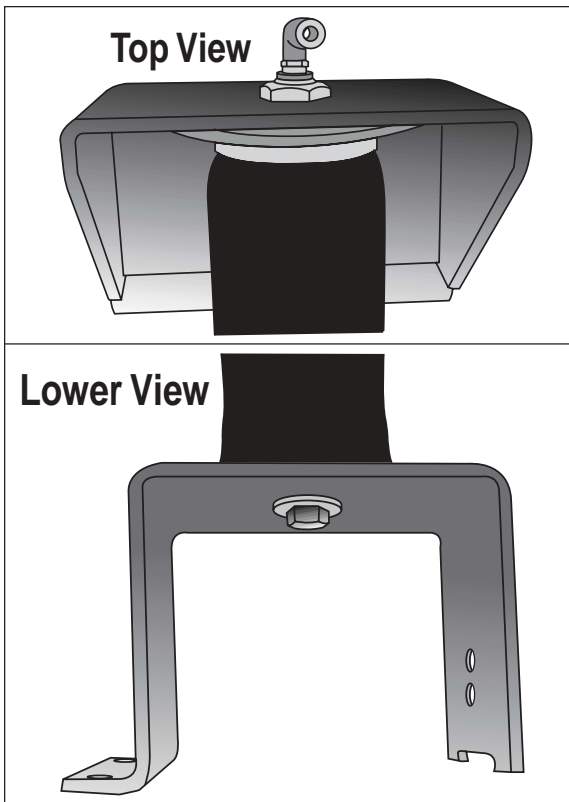

Figure 2
1. Attach the air sleeve to the upper and lower brackets. Leave the lower bolt loose at this time. Install the air fitting and tighten finger tight plus 1.5 turns (Figure 2).
If the vehicle has a rough and harsh ride it may be due to either too much pressure or not enough (fig. 2). Try different pressures to determine the best ride comfort.